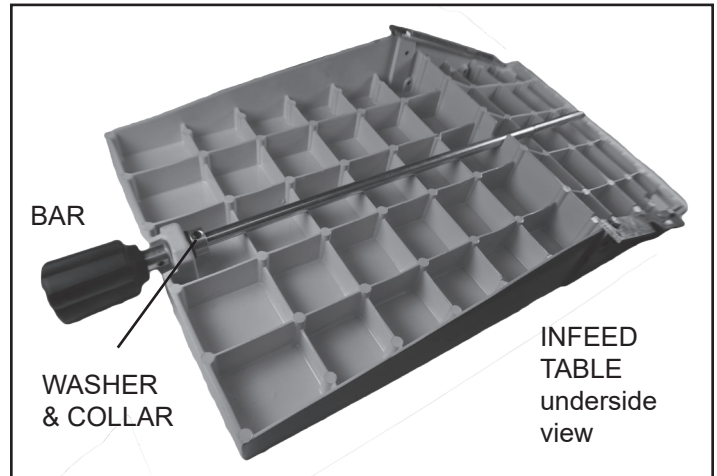

FIG. 7
3. Insert the bar through the table's end hole and under-side of the table. Then re-attach the Spring Washer and Collar onto the Bar to secure it in place. FIG. 7.